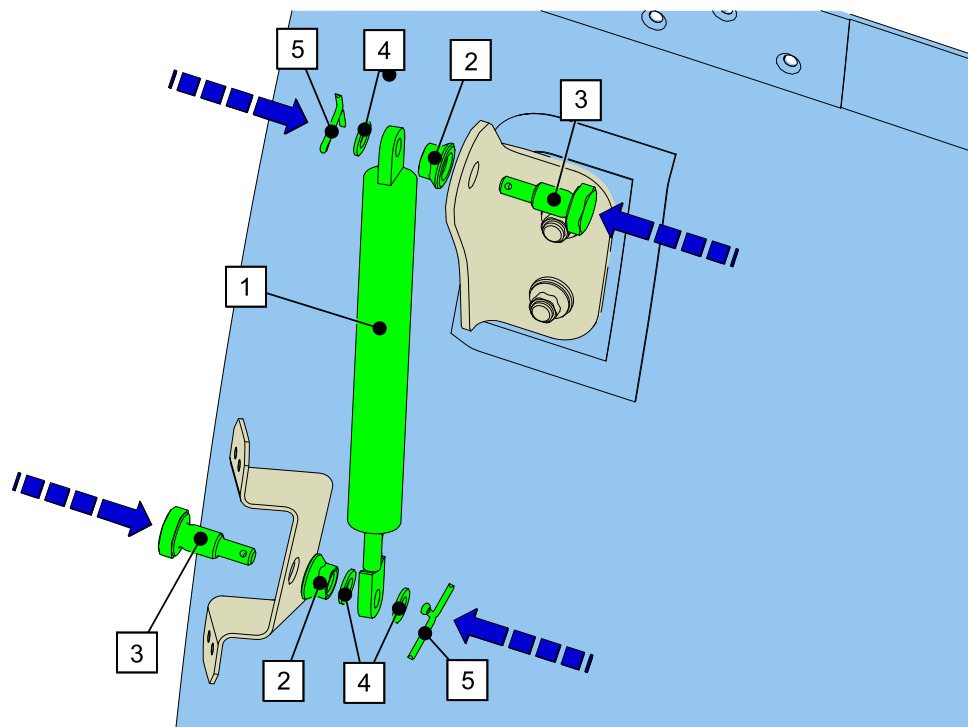

Figure 3
- 4.3.1. Install on the door side (top in Figure 3):
- The SHOULDER PIN 365A61671120 (3)
- The SELF-LOCKING HEX NUT ASN52320BH060N (2), dry tightening torque refer to MTC 20-02-05-404
- The COMPENSATOR ROD IG6004-40052 (1)
- The FLAT WASHER 23111AG040LE (4)
- The SPLIT PIN 23310CA015012 (5).
- 4.3.2. Install on the structure side (bottom in Figure 3):
- The two FLAT WASHER 23111AG040LE (4)